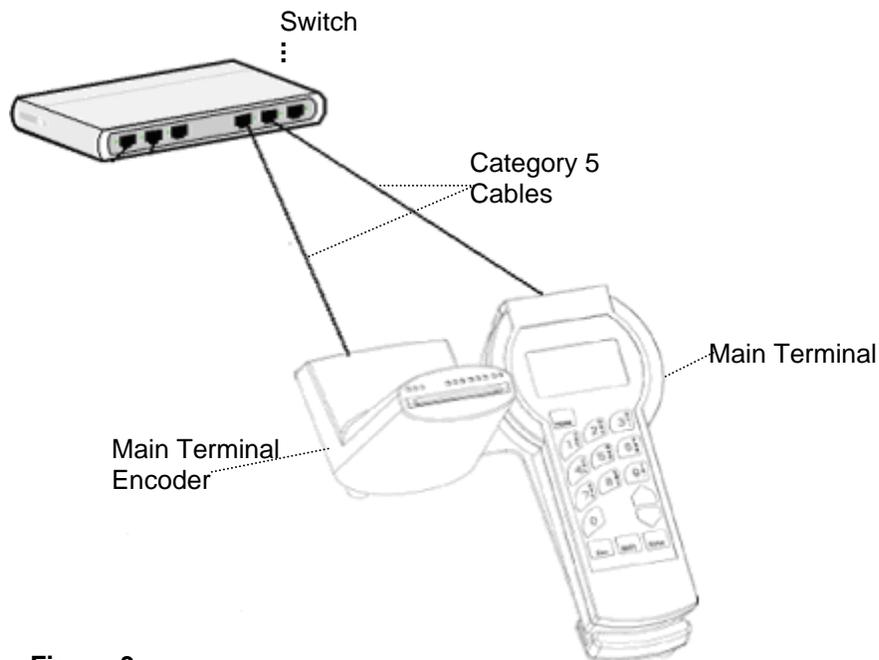

Figure-3
Step 1. Connect the main station's hand held terminal and encoder to the switch as illustrated in Figure-3 below.